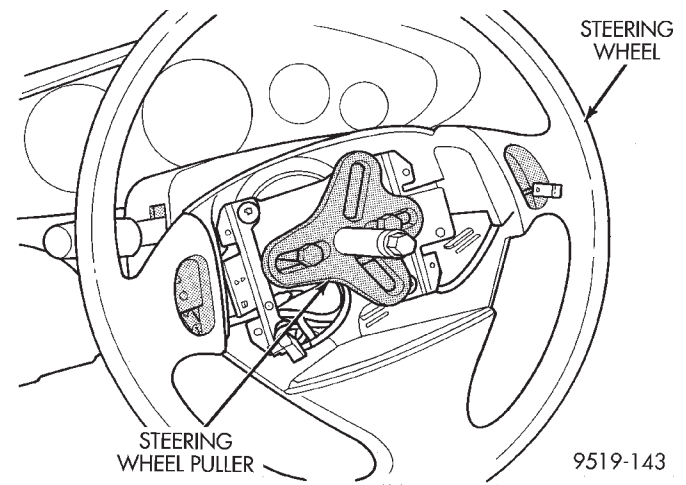

Fig. 10 Puller Installed On Steering Wheel
(15) Install Puller, Snap-On CJ2001P or an equivalent on steering wheel (Fig. 10).